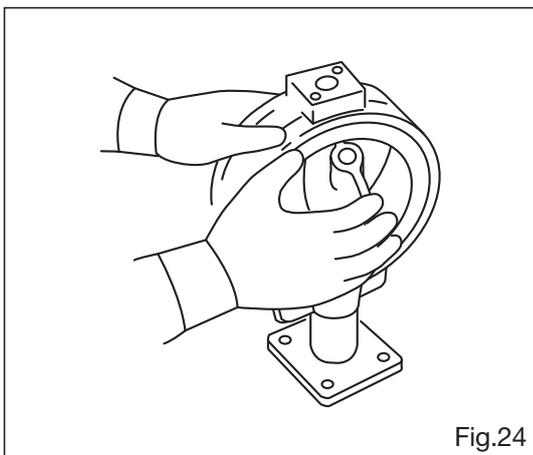

Fig.24
Apply silicone oil to the disc ②, then, insert the disc ② into the rubber-lined valve body. (Fig.24)